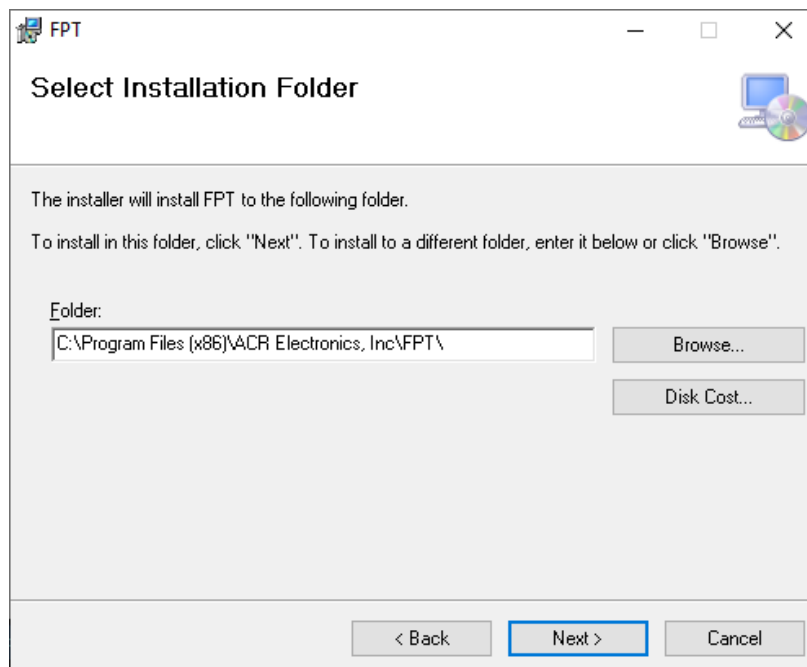

Figure 28 - FPT Installer
9. Verify that the install location is the following path: **C:\Program Files (x86)\ACR Electronics, Inc\FPT** (Figure 28).